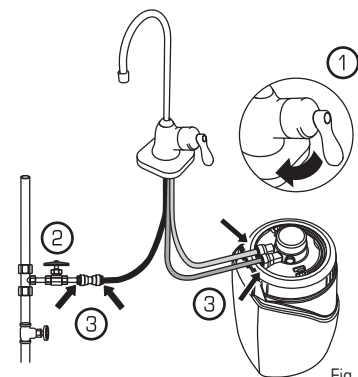

Fig. 25
7. **Open** the **eSpring** Faucet (1). **Open** the water supply shut-off valve to start water flowing through the Water Purifier (2) (Fig. 25).
8. **Turn off** the **eSpring** Faucet and check for any signs of leakage at all tubing connections (3) (Fig. 25). If there is leaking or bubbling, refer to Troubleshooting, p. 7.